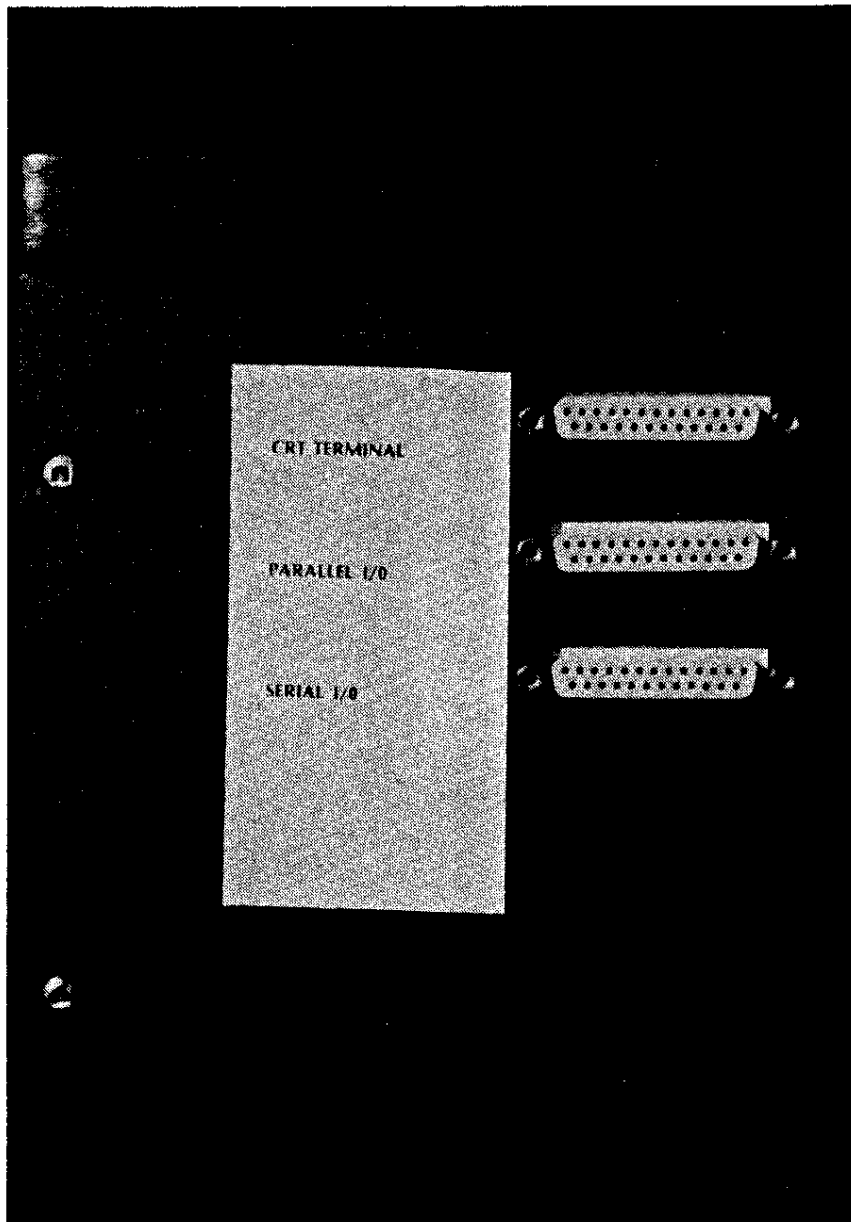

Figure 2.1-9
6. The other plug locations in the upper left portion of the back panel are labelled "CRT Terminal, Parallel I/O and Serial I/O" (See Figure 2.1-9). These are for the appropriate devices and will be referenced later. (See sections on CRT and Printer).